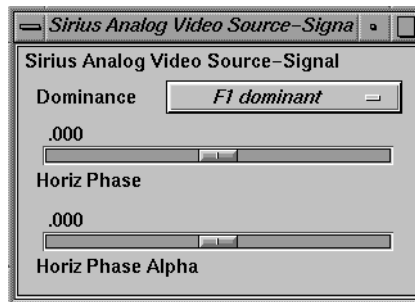

Figure C-10 Setting Analog Video Source Field Dominance or Horizontal Phase
9. To set field dominance or adjust horizontal phase for the video and its separate alpha, if any, select “Analog Video Source” in the Pro menu, and then select “Signal Controls.” The Sirius Analog Video Source-Signal window appears, as shown in Figure C-10.